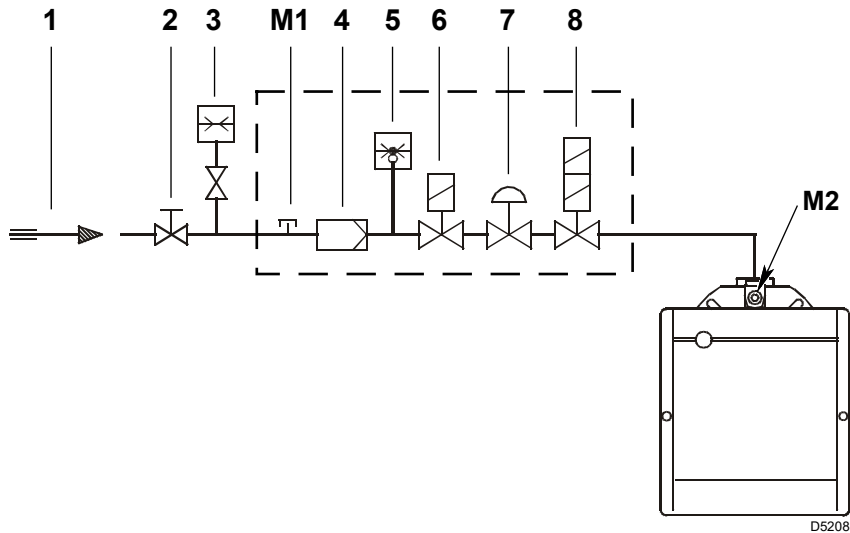

Fig. 16
Key (Fig. 16)
Gas pressure measured at test point M2)(Fig. 16 on page 18), with:
- subtract the pressure in the combustion chamber from the pressure of the gas at test point M2)(Fig. 16 on page 18).
Gas pressure at test point M2)(Fig. 16) = 13 mbar
To calculate the required gas pressure at test point M2)(Fig. 16 on page 18), with the maximum modulating output at which you want the burner to operate having been fixed:
- Read on the right, column 1, the pressure at the socket M2)(Fig. 16 on page 18).
pressure required at the test point M2)(Fig. 16 on page 18).